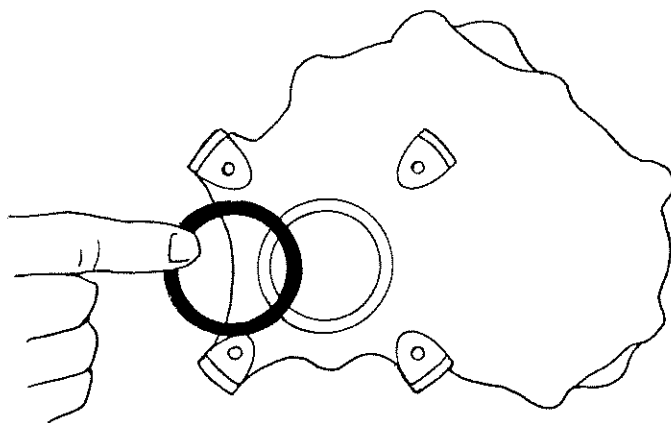

Figure 2.
- 1). Place pinion case seal into recessed area on the back of the gearbox. (Figure 2).